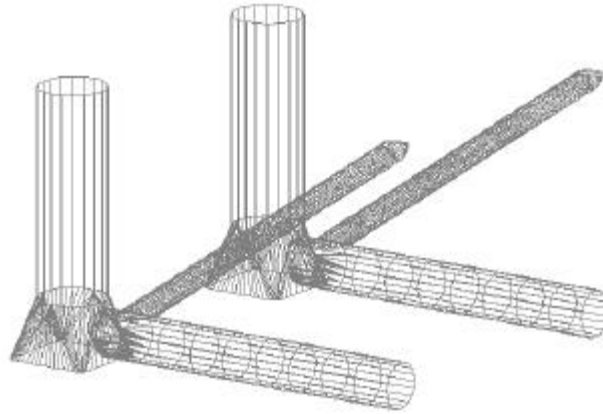

Figure 6-3: Groups Column & Bracing and Column & Bracing 2 in Para View.
3. Move *Column & Bracing* 33.0m to starboard. Note that *Column and Bracing 2* also moves, since it is a clone. (Refer to figure 6-3.)